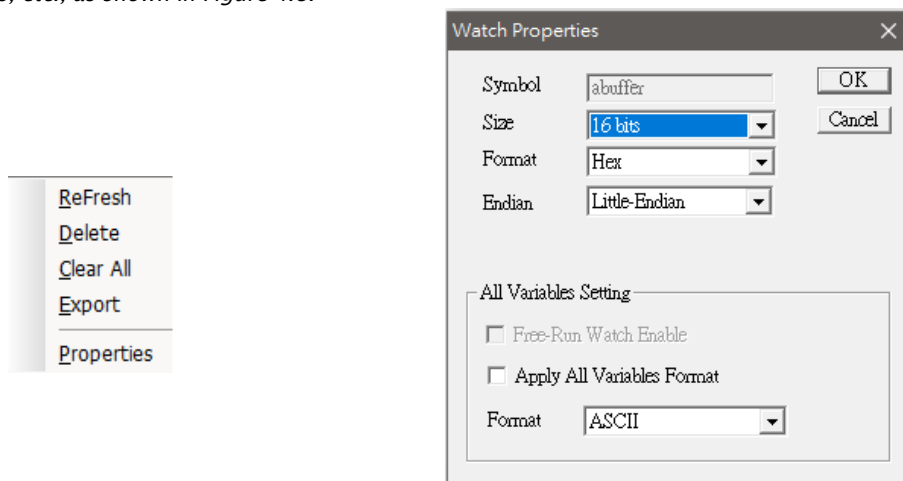

Figure 4.8 Watch Window property setting
*Note): Quick Start: In debug mode, double-click the blank line under Name, enter the variable name to be observed, and after confirmation, you can see the corresponding address and value in the name and value fields, unless the entered variable name is invalid or Not within the scope, you can change the observation properties of the variable through the right-click menu, such as switching the number system represented and setting all variable properties, etc., as shown in Figure 4.8.*